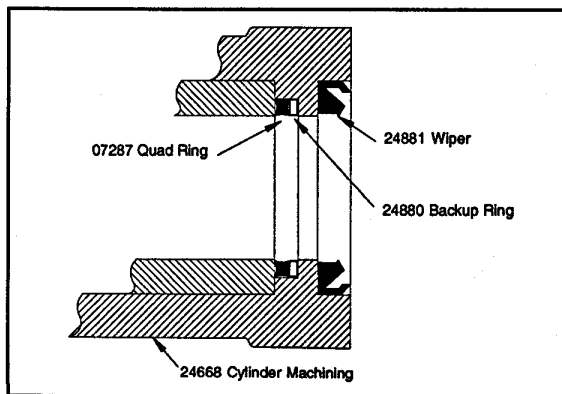

Figure 4. Cross Section of 24668 Cylinder Machining
1. Clamp the cylinder machining (46) in a vise with soft jaws.
2. Apply grease to the quad ring (90) and the backup ring (89). Install the quad ring followed by the backup ring into the groove in the bore of the cylinder machining as shown in figure 4.
3. Apply grease to the wiper (88) and press it in place in the cylinder machining in the location shown in figure 4.